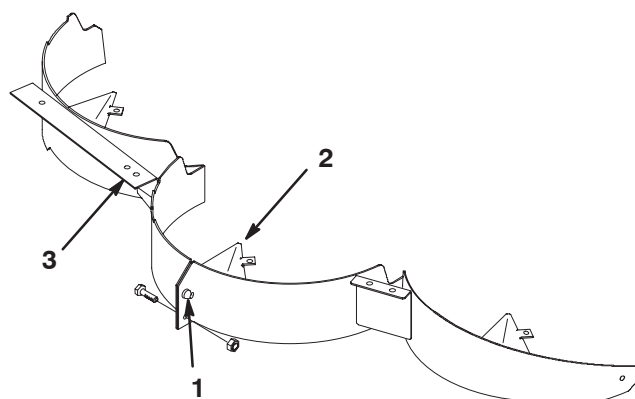

Figure 4
- Position the baffle sides together using the alignment pin on the flanges (Fig. 4).
- Baffle kicker (3)
- Using the baffles as templates, mark the hole locations for the remainder of the holes in the mower housing (Fig. 4). Only drill one additional hole for mounting the right baffle flange (Fig. 4).
- Secure the baffle flanges together with a 5/16-18 x 5/8" bolt and 5/16" locknut (Fig. 4).